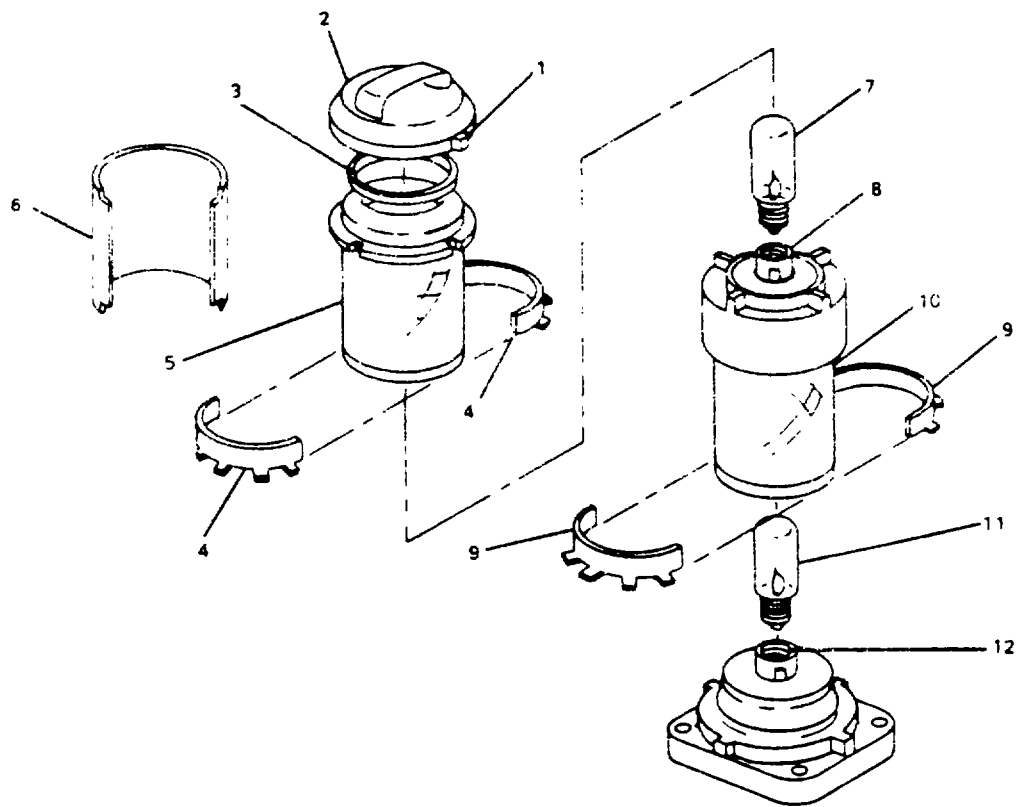

Figure 2-63. Repair Navigation Light (Double Lens).
- a. Loosen setscrew (1, Figure 2-63) and remove lid (2) and gasket (3).
- b. Unscrew and remove upper clamp (4).
- c. Remove upper lens (5) and screen (6).
- d. Loosen and remove upper bulb (7) from upper socket (8).
- e. Unscrew and remove lower clamp (9).
- f. Remove lower lens (10).
- g. Loosen and remove lower bulb (11) from lower socket (12).